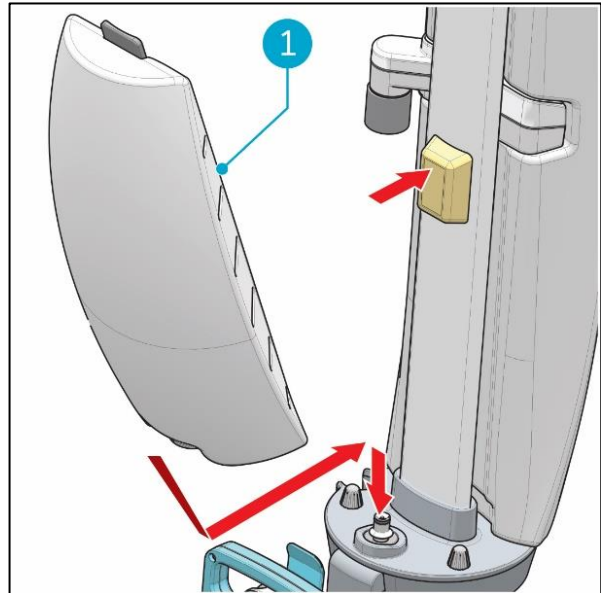

Figure 14
5. Put the tank on the i-mop Lite with the valve first (Figure 14, pos 1).